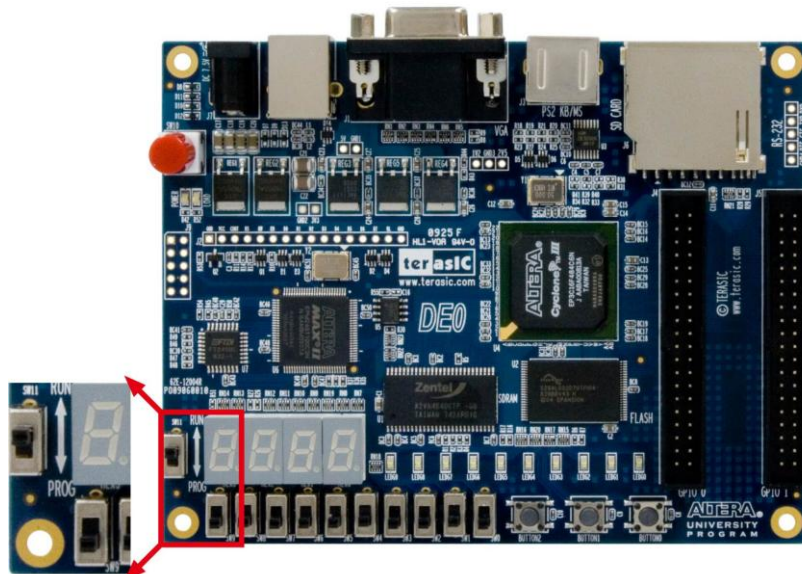

Figure 4-4. The RUN/PROG switch (SW2) is set in AS mode
- Configure the JTAG programming circuit by setting the RUN/PROG switch (see Figure 4-4) to the PROG position.